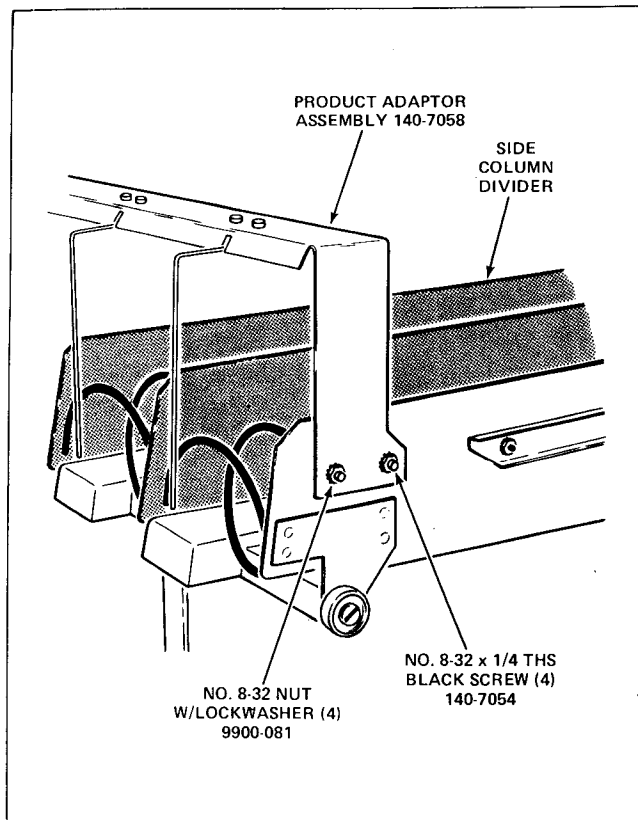

FIGURE 2
5. Insert two No.8-32 x 1/4 Truss Head Black Screws, Part Number 140-7054, included in the Kit, into the holes in the Side Column Divider with the heads of the Screws on the inside of the Side Column Divider. See Figure 2.
6. Install the Product Adaptor Assembly, Part Number 140-7058, included in the Kit, over the Black Screws inserted in Step 5. See Figure 2.
7. Attach the Product Adaptor Assembly to the Side Column Divider and the two Black Screws with two No.8-32 Nuts with Lockwashers, Part Number 9900-081, included in the Kit. See Figure 2.